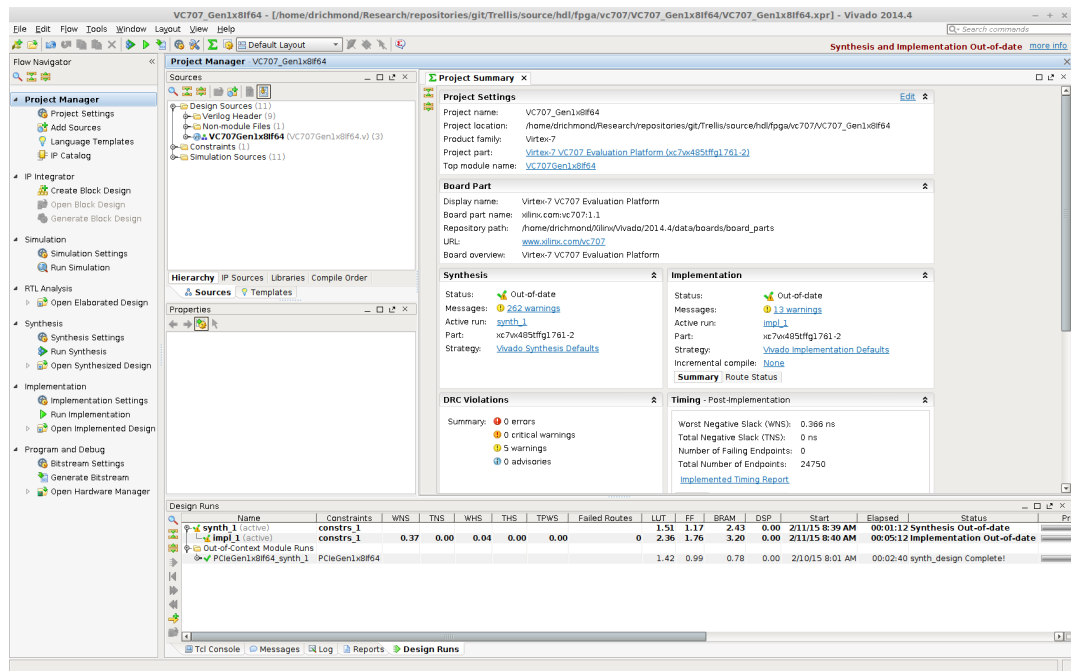
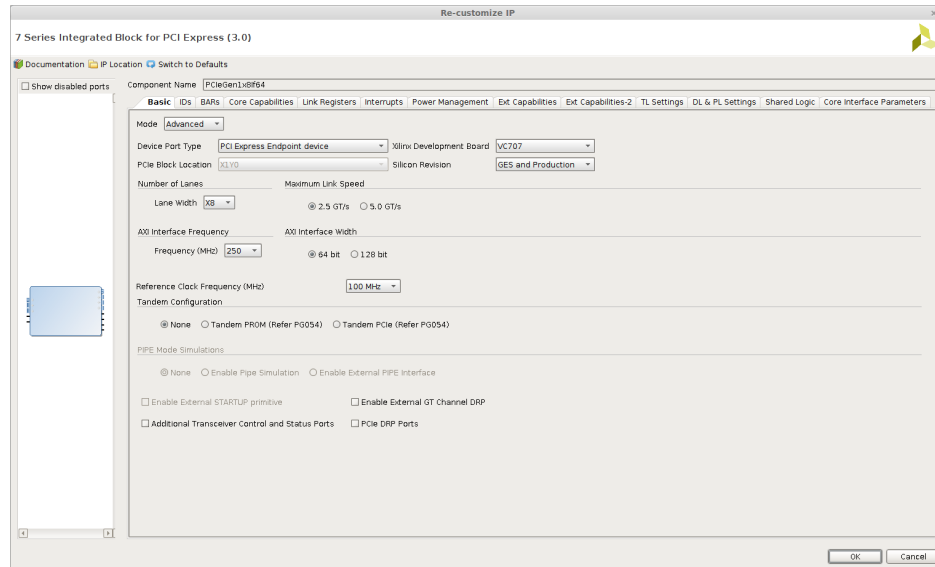

Figure 4.2: Project Splash Screen for 7Series Integrated Block for PCI Express Projects
Figure 4.4: Basic settings tab.
3. In the RIFFA 2.2.0 distribution, open *RIFFA 2.2.0/source/fpga/xilinx/vc707/* or *RIFFA 2.2.0/source/fpga/zc706* and choose from one of the existing example design directories for your board. In the example design directory, locate the *prj* folder and open it. Select the .xpr file and click open. This will open the example project, as shown in Figure 4.2.
- To recompile the example design, click the generate bitstream button in the top left corner as shown in Figure 4.2.
To generate the PCIe IP select the 7 Series Integrated Block for PCI Express after selecting the IP Catalog shown in Figure 4.2. This will open the IP Customization window as shown in Figure 4.4
In Figure 4.4 , we have set the **Xilinx Development Board** to **VC707**, selected the PCIe Gen1 rate **2.5 GT/s**, and a **Lane Width** of **8** (***C\_NUM\_LANES*** = 8). We have chosen to set the **AXI Interface Width** to **64-bits** (***C\_PCI\_DATA\_WIDTH*** = 64). The choice of Link Rate, Lanes, and Interface Width will allow different AXI Interface Frequencies to be selected. The RIFFA core will run at this clock frequency, but the user logic can run at whatever frequency it desires.
Optional: Set the Component Name of the PCI Express block, and the IP Location. In our example projects, we use the name template PCIeGen**W**x**Y**if**Z** where **W** is the PCI Express Version (**Link Speed** in Figure 4.4), **Y** is the lane width, and **Z** is the AXI interface width. The IP location is the *ip* directory in the example project.